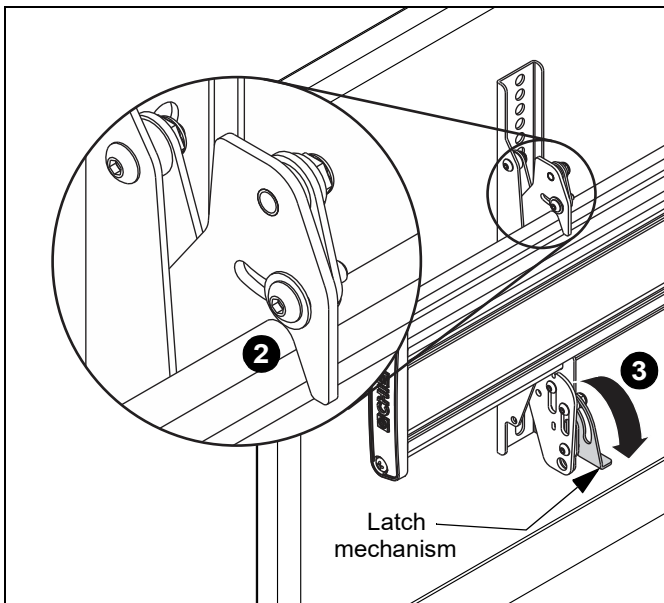

Figure 4
2. While supporting both sides of display, lower display onto mounting rail, hooking top of interface brackets onto top of mounting rail. (See Figure 4)
3. Lower the latch mechanism on both interface brackets to lock bracket in place. (See Figure 4)